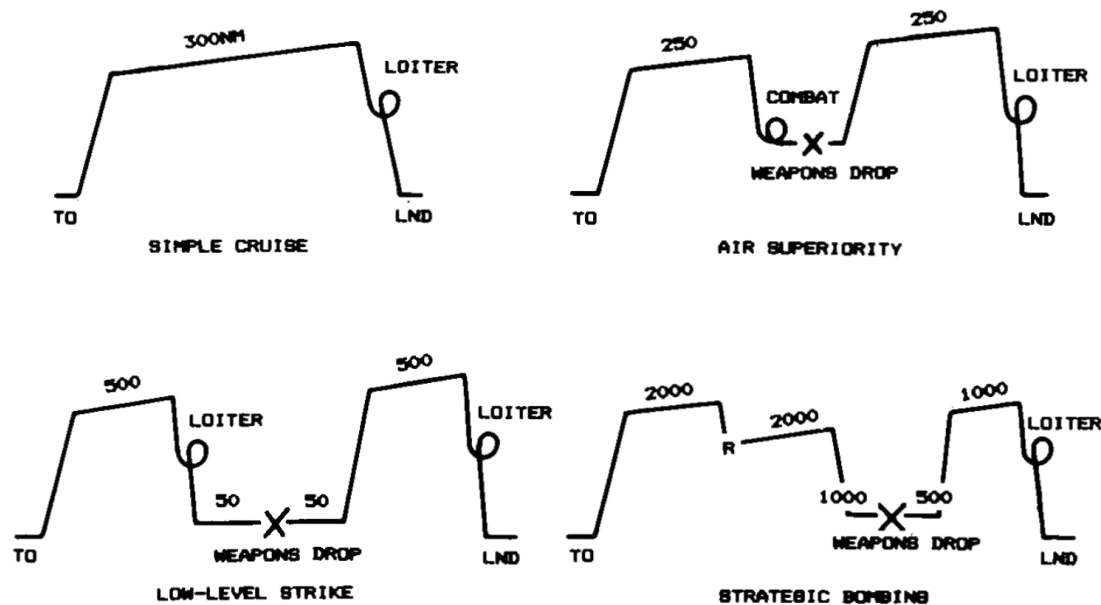

Fig. 3.2 Typical mission profiles for sizing.
- Typical mission profiles for various types of aircraft are shown in Fig. 3.2.